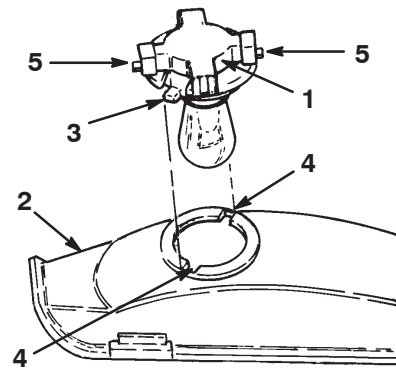

Figure 29
7. Rotate the bulb holder 1/4 turn counterclockwise and remove it from the reflector (Fig. 29).
2. The bulb holder has 2 tabs (Fig. 29). Align the tabs with the slots in the reflector, insert the bulb holder into the reflector, and rotate it 1/4 turn clockwise until it stops.